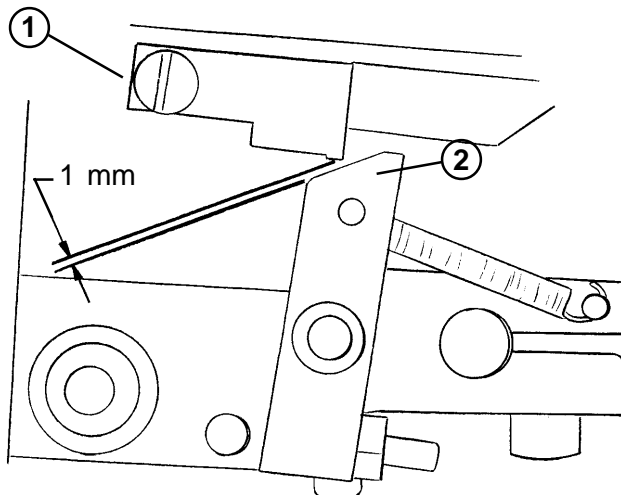
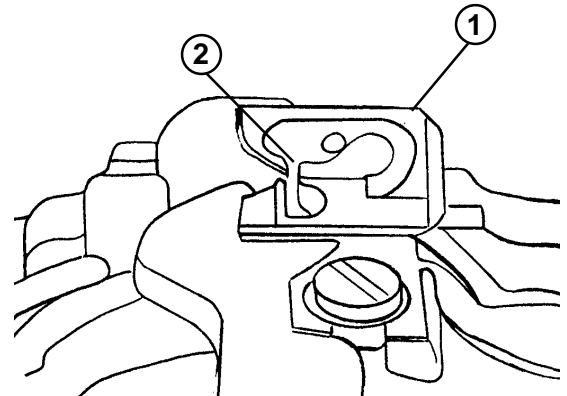

FIG. 3-17
FIG. 3-18
F. SWING KNIFE and LOOPER THREAD TRAPPER. With the machine still at the end of the sewing phase of the cycle, insure that the swing knife actuating block (Fig. 3-17, Item 1) is 1 mm from the swing knife linkage (Fig. 3-17, Item 2). When this gap has been properly set, depress the start switch, the machine will move to the punch position phase of the cycle. With the machine in this position insure that the looper thread trapper (Fig. 3-18, Item 1) is approximately 1 mm to the right of the slot in the throat plate (Fig. 3-18, Item 2).